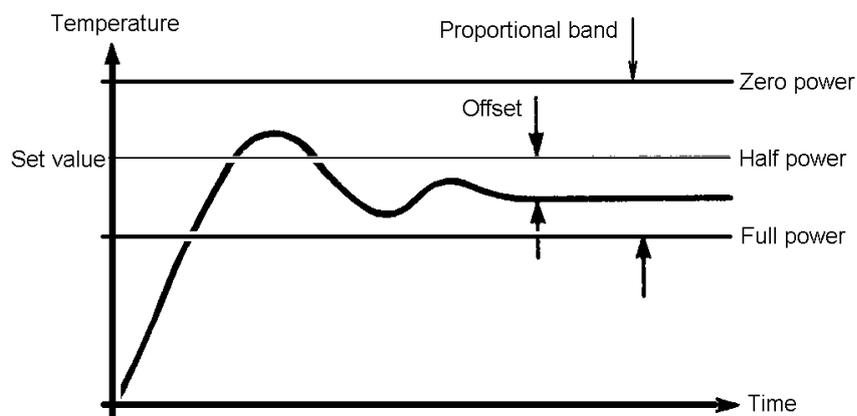

Figure 17 Proportional (P) control
When the measured temperature becomes steady, its deviation from the set value is called offset. Refer to Figure 17. From equation (2),
Figure 17 shows the case of a positive offset. At steady state, the control action is 75%. The offset is  $2.5\text{ }^{\circ}\text{C}$  ( $= (75\% - 50\%)*10\text{ }^{\circ}\text{C}$ ).
In the case of Figure 17,  $r\% = 25\%$ .
For controllers without the reset screw, the offset could be removed by adjusting the set temperature. In the case of Figure 17, raise the set value by 2.5 °C. At steady state, there is still an offset of 2.5 °C from the new set temperature, but the measured temperature is now right on at the original set temperature.
Derivative control accounts for the trend by being proportional to the time rate of change of the deviation. As temperature approaches the set value at a fast rate, the brake is stepped on harder to reduce or eliminate the overshoot. As a result of reducing the overshoot, the set temperature is reached in a shorter period of time. Comparison of Figures 17 and 18 attests to this.
The PID control action removes the offset automatically by adding a term which is proportional to the time integral of the deviation. When there is an offset, its integral would increase with time to remove the offset. Comparison of Figures 17 and 19 attests to this.